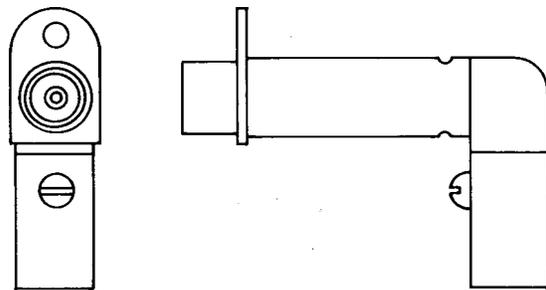

Fig. 15—565A or B Jack
2.15 565A and B: These right angle coaxial-type jacks (Fig. 15) are designed to be used with a 440A, 441A, and similar size plugs.